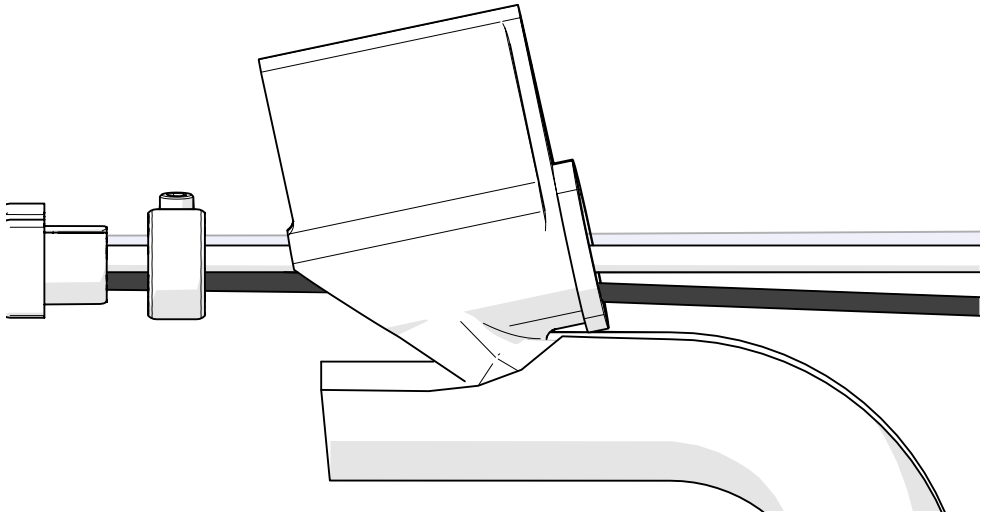

Fig. 62 - Loom installation tool
5. Use the loom installation tool to install the protective sleeving over the cable/tube bundle (*Fig. 62*).
6. Begin at the scanner end, wrap the tool around the cables with the shoe pointing away from the scanner. Use the shoe of the loom to open the sleeving and begin wrapping the open sleeve around the cables (*Fig. 62*).